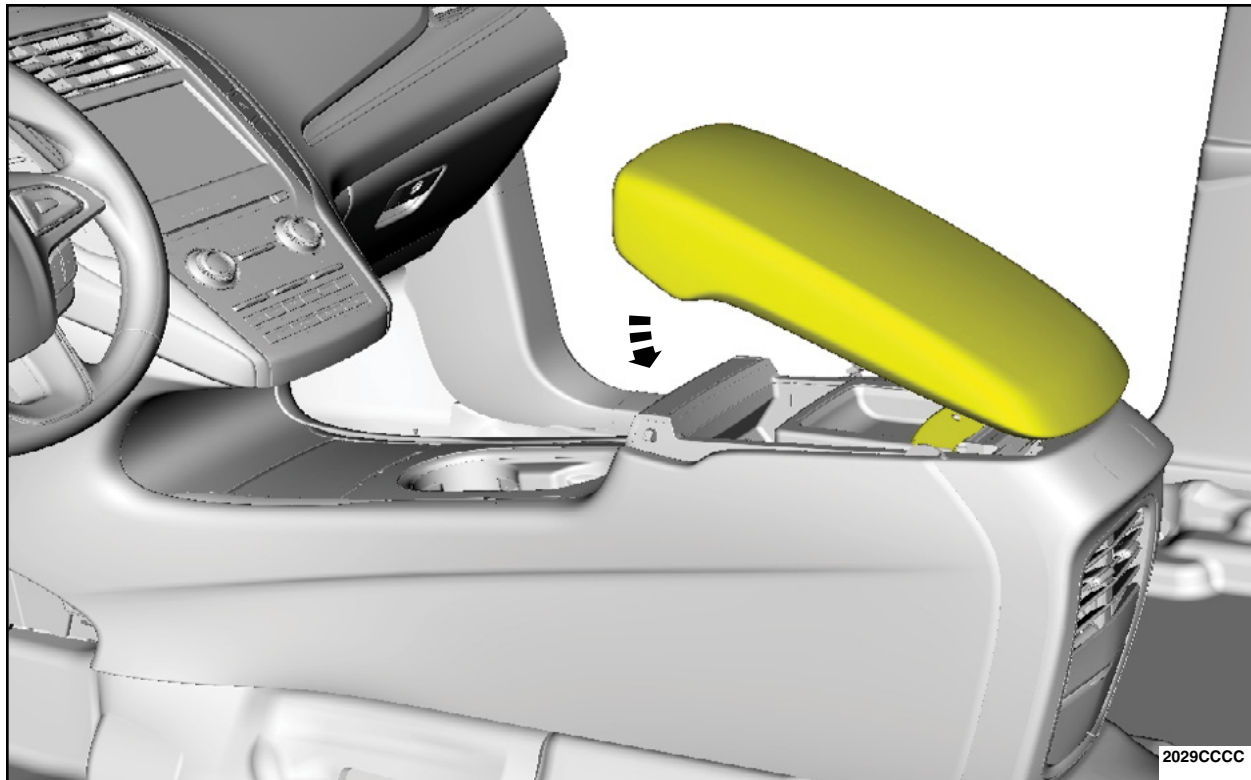

FIGURE 15
18. Close the floor console storage bin lid. See Figure 15.